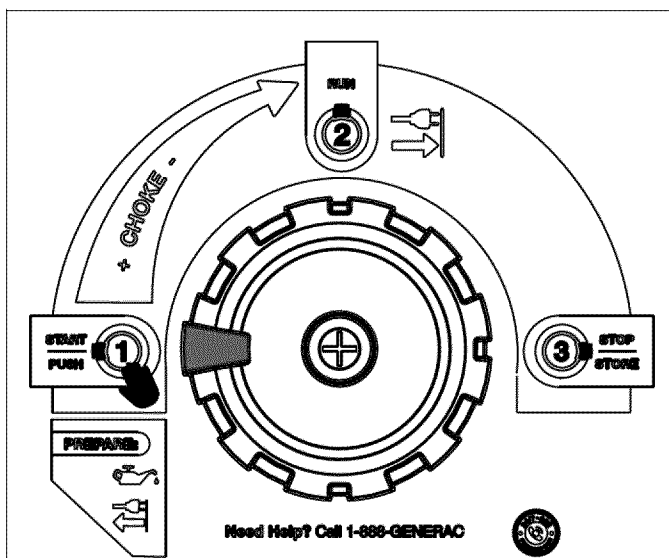

Figure 3-2. PowerDial START Position
1. To start the engine, turn the PowerDial to the START position (Figure 3-2). This opens the fuel valve and activates (closes) the choke.
1. See Figure 3-2. To start the generator, rotate the PowerDial to the START position.